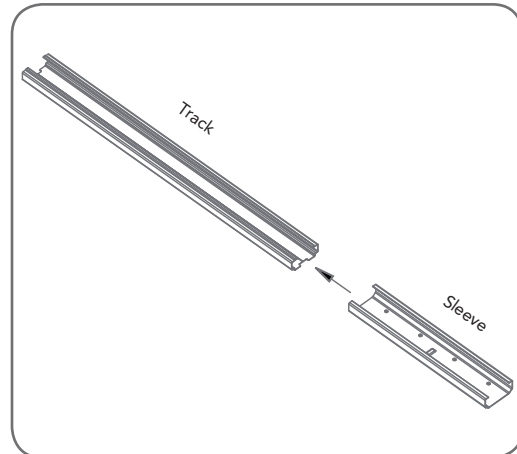

fig 03
- Slide sleeve onto the track section (Fig. 03). Connect track by sliding sleeve onto next track section. Tap track assembly on piece of wood until track sections are flush. Repeat with remaining track sections.